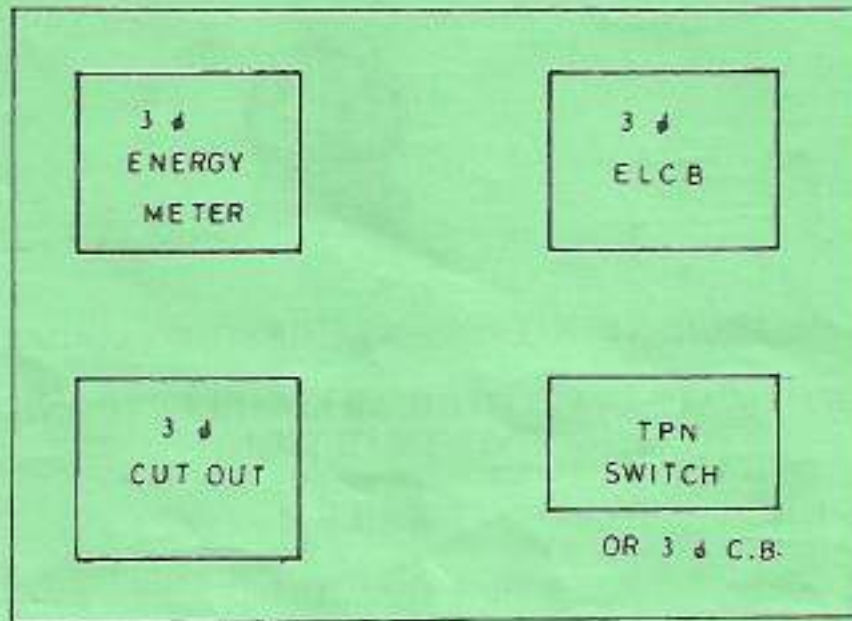

Fig 1 (a)
1. (a) **Figure 1 (a)** shows the layout of equipment at the consumers intake point. The control gear equipment is pre-installed on a wooden surface.